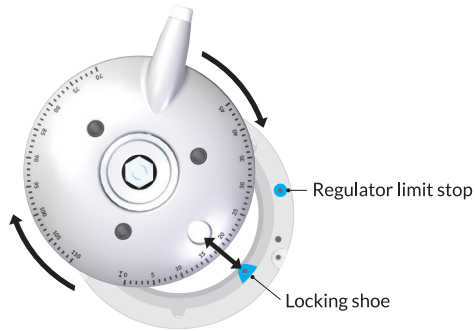

Fig. 14
Position the regulator collar (13) leaving about 90° between the grind point lock screw (7) and regulator limit stop (Fig. 14). In that position, tighten the regulator (13) on the upper burr carrier and with a T20 Torx screwdriver, as Fig. 10.